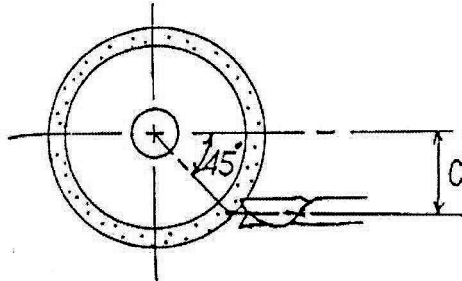

FIG. 5.15
(9) After grinding the 1st Relief Angle then do the grinding for 2nd Relief Angle, The lift level- C needed is shown as Fig. 5.15.